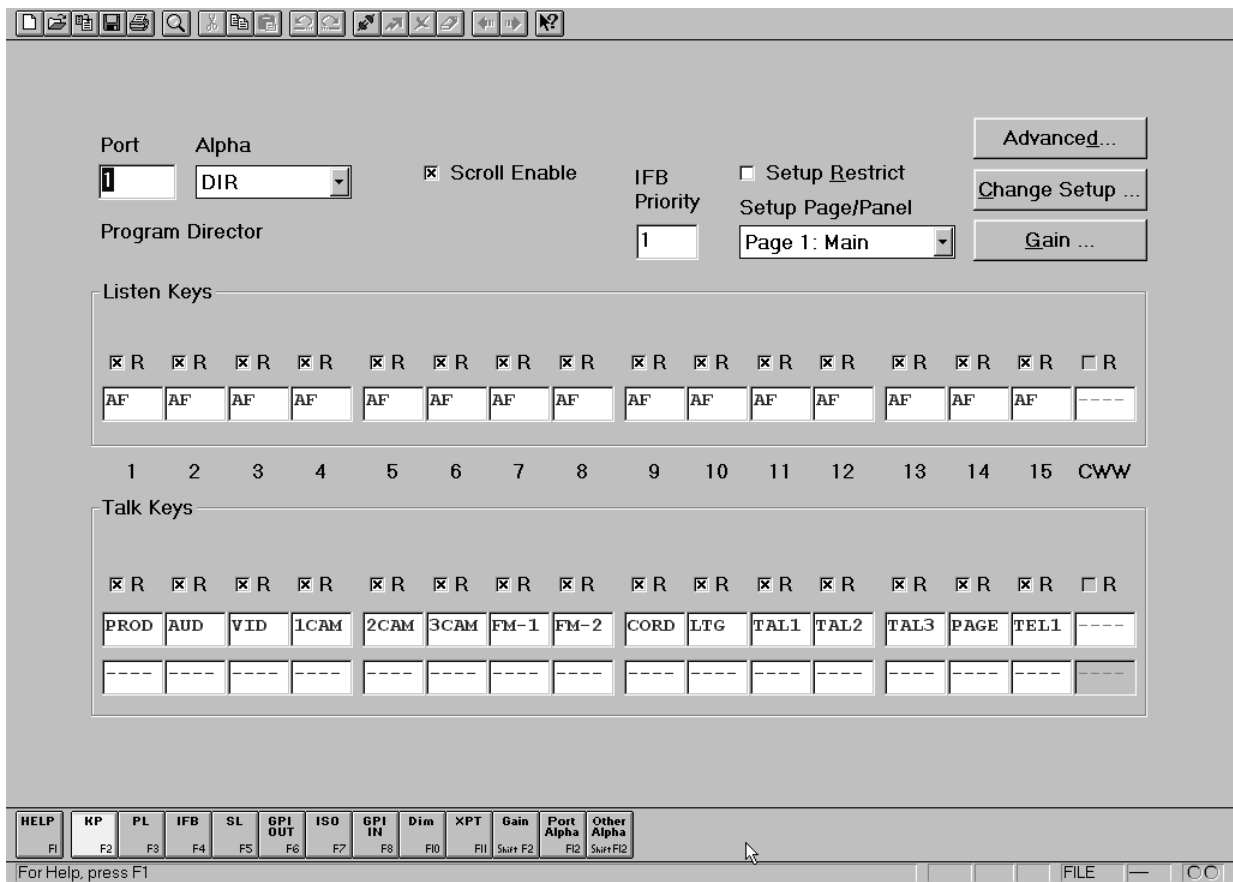

Figure 4. The keypanel setup screen for the director's keypanel in the example file 1studio.zus
15. The director's keypanel is set up on intercom port number 1, and this is the intercom port that appears when you first click the KP button. See Figure 4.